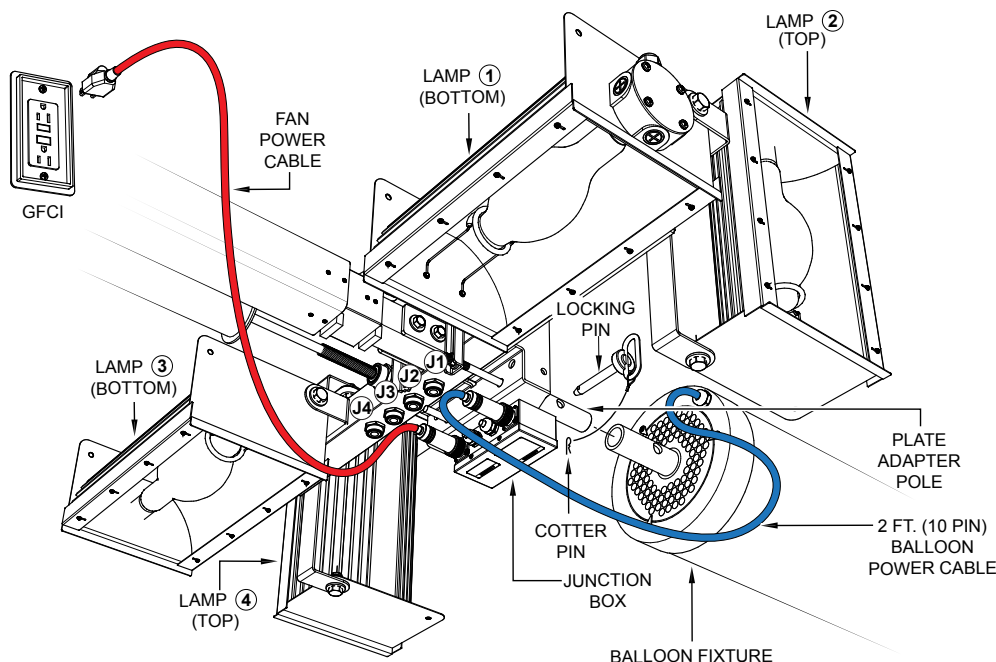

Figure 20. Fan/Balloon Power Cable Connections
1. Place the GB2000 lamp fixture onto the lamp adapter plate pole as shown in Figure 20.
1. Insert the 38 ft. (11.5 meters), 3-prong AC power plug on the fan power cable as shown in Figure 20 into the GFCI power receptacle on the generator.
1. Connect the balloon power cable (Figure 20) to the 10-pin receptacle on the junction box.